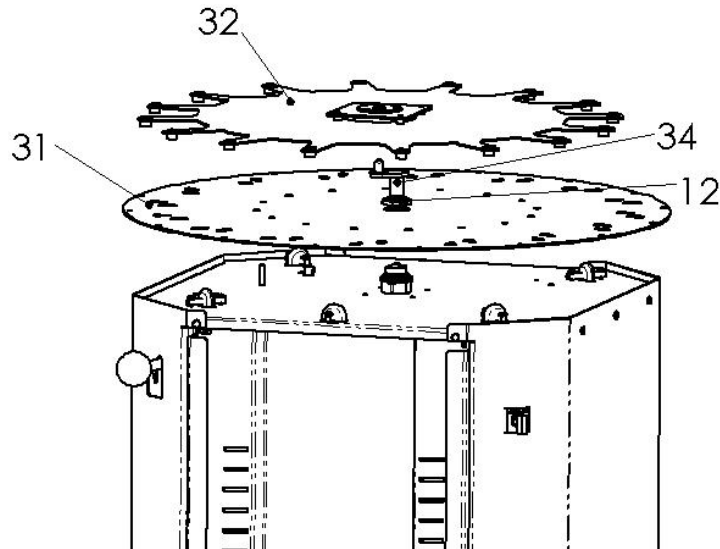

Figure 3-1
- 1) Remove Nut Turntable (12) by rotating anticlockwise from the centre Top Plate of the assembly.
- 2) Remove Turntable (31) from its packaging and place on unit locating centre with Brass Swivel Nut (Figure 3-1), (Shoulder Nylon Bushing and Support Washer should be already in place on the Brass Swivel Nut).
- 3) Once the Turntable is in place, fasten Turntable Nut (12) on Brass Swivel Nut (Figure 3-1).
- 4) Insert Crankshaft and Nylon Washer (34) into centre of Brass Swivel Nut (9) (Figure 3-1).
- 5) Place Agitator Plate (32) on top of Turntable locating the centre with the Crankshaft (Figure 3-1).